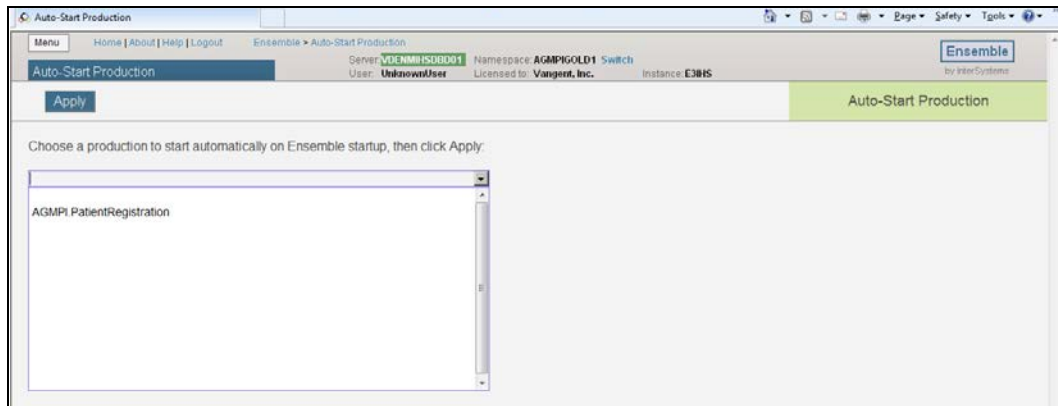

Figure 4-10: **Auto-Start Production** page
- Click **Manage**, then click **Auto-Start Production** to open the **Auto-Start Production** page, as shown in Figure 4-10.